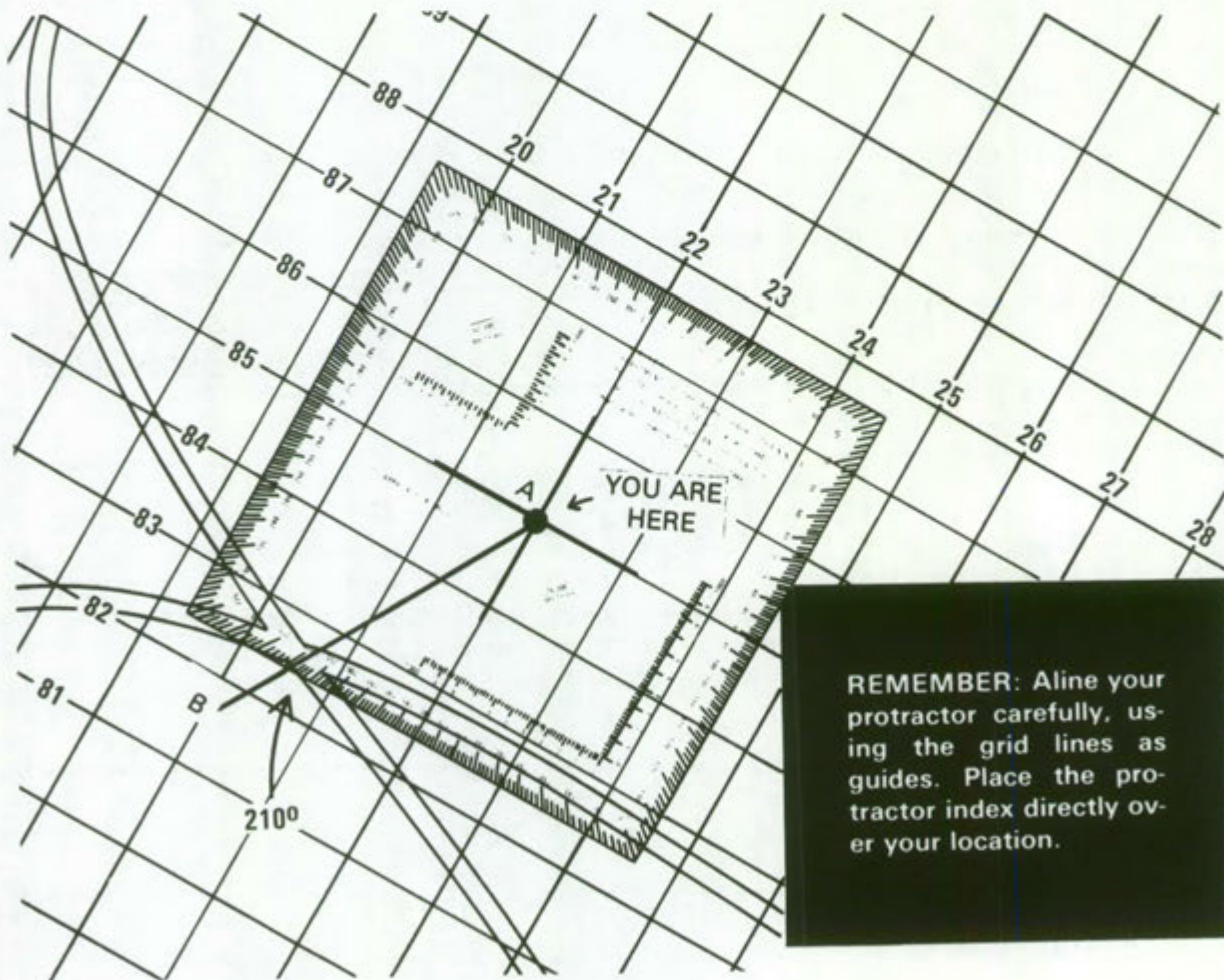

Figure 1.
- a. Determine your location (Point A) and the location of the other point (B) on the map (see figure 1).
Suppose you follow the 210-degree azimuth in figure 1 to the road junction, and then want to go back to your original location. To do this, you take a BACK AZIMUTH. You simply subtract 180 from the first azimuth. Your back azimuth is $210 - 180 = 30$ degrees.